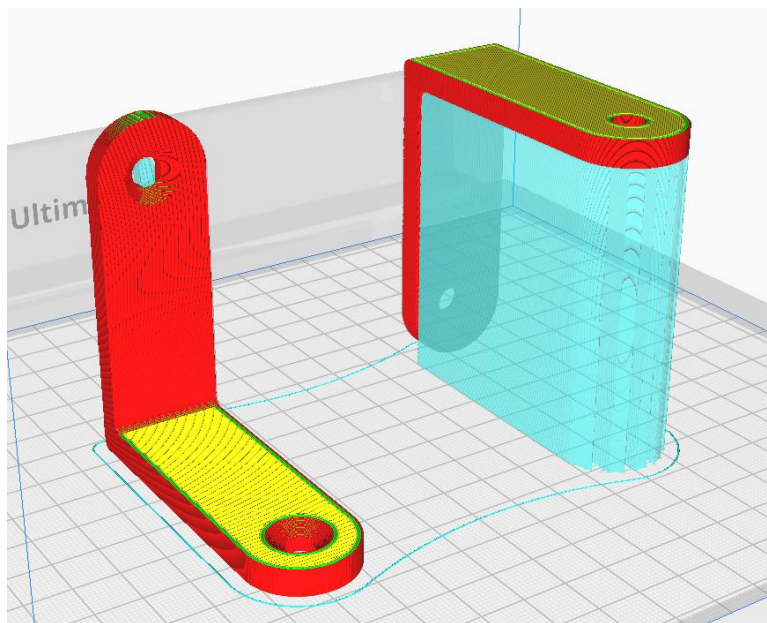

Fig 4.5: Assessing the build orientation of same design
8. **Build Orientation:** Build orientation (as shown in Fig. 4.5), also known as part orientation, is a crucial factor in 3D printing because it affects the part's strength, accuracy, surface finish, and print speed. It shows how the part is positioned relative to the printer's three major axes.